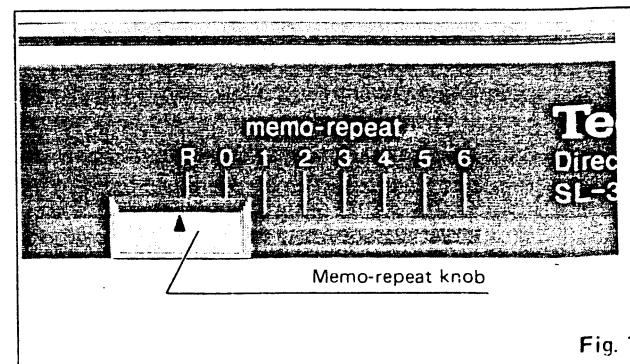

Fig. 7
2. Set the "memo-repeat" knob to the desired number of times you wish to play. (See Fig. 7.)